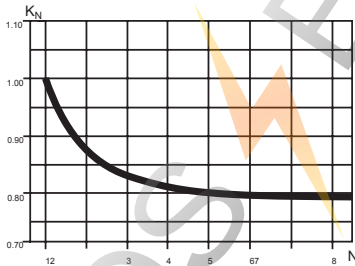

Fig. 4
3.3.2  $K_N$  rating reflecting the change in MCB load depending on the number of poles placed close to each other is shown in Figure 4.